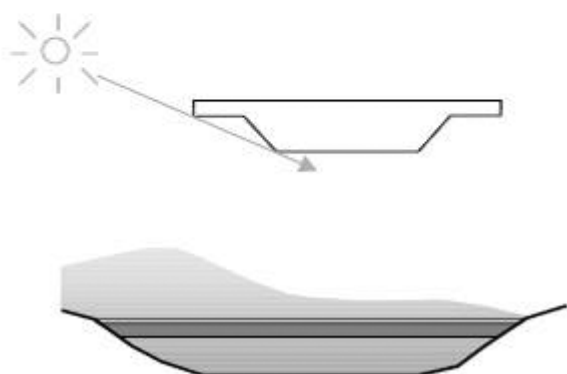

Figure 7: Shadows on the deck
- Shadows. Ramp E runs approximately in a north-south direction which means that the rays of the sun shine perpendicular on the bridge in the mornings when the sun rises and in the evenings when the sun sets. To eliminate lines on the deck caused by shadows, two methods were employed. The first was to maximize the cantilever length and the second was to make sure that the outside of the girder webs and the deck cantilever did not meet at right angles. The concept is illustrated in Figure 7.